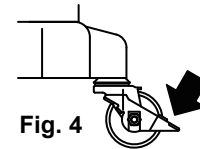

Fig. 4
- During machine operation or after completion of movement, be sure to lock the caster brake for locking. (Fig. 4)